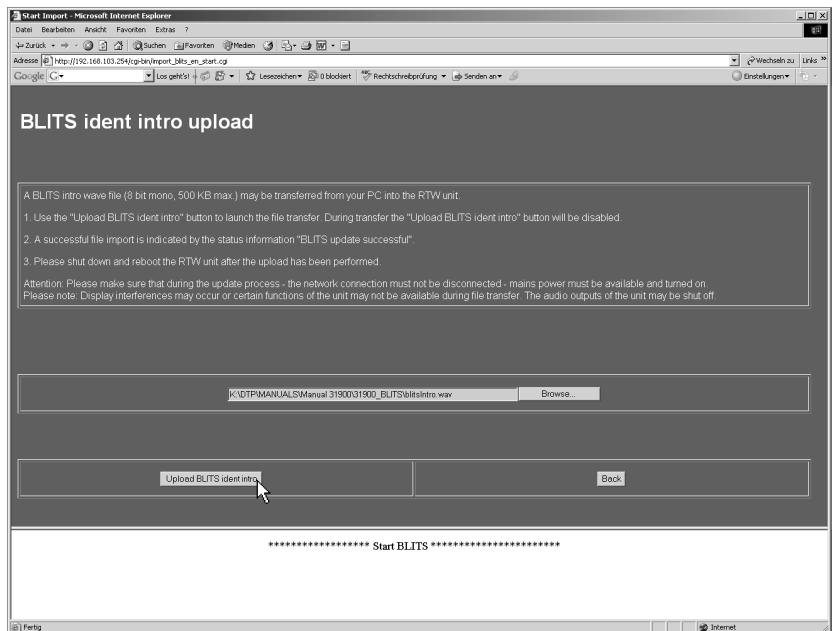

Fig. 8-30: Starting the upload
5. A click to the **Upload BLITS ident intro** button starts the data transfer to the Surround Control units (see Fig. 8-30). If the **Upload BLITS ident intro** button is not visible move the menu page upward by using the scrollbar on the right. **Please make sure that no interruption of the network access or supply power occurs during the download sequence.**